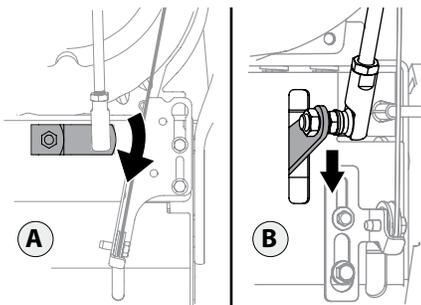

Figure 2-54
3. Make sure the shift lever on the back of the transmission is rotated downward to the full extent of its rotation. See Figure 2-54, Detail "A" for models without hydro transmission or Detail "B" for models with hydro transmission.